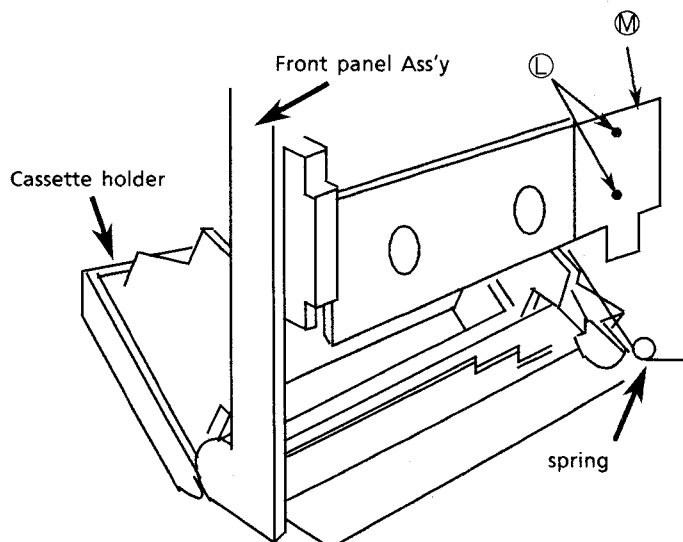

Fig 7
2. Remove the 2 screws ①.
3. Remove the ①.
4. Remove the spring hooked on the cassette holder (Fig 7).